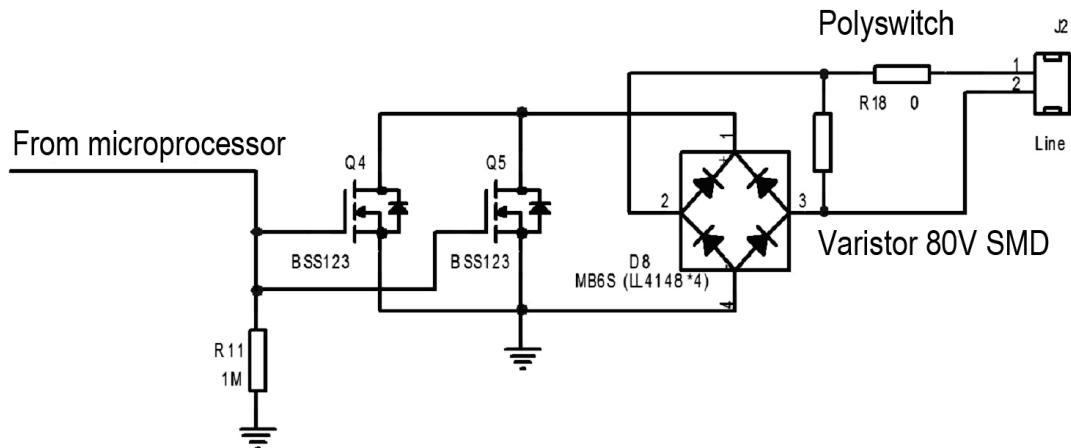

Figure 5
6.7.4 Connect wires of CGS electrical triggering element and a fire alarm loop circuit to terminals 4, 5 in a case electronic launching unit accordingly. Scheme of output stage of a fire alarm loop circuit line signal control with end device is shown at Figure 5.